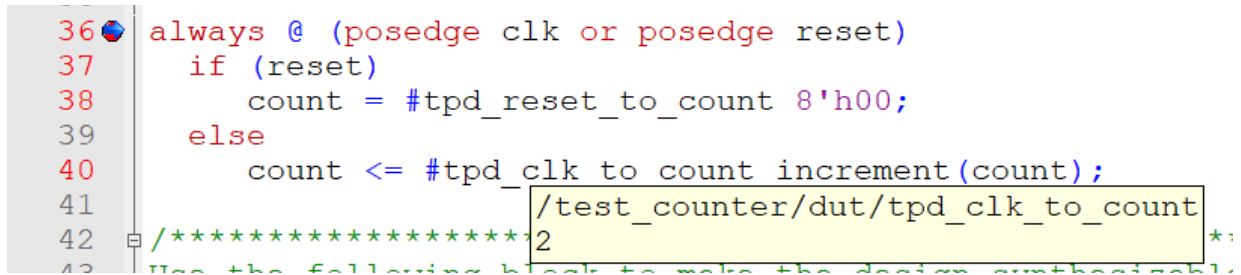

Figure 22
- Set your mouse pointer over a variable in the Source window and a yellow box will appear with the variable name and the value of that variable at the time of the selected cursor in the Wave window (Figure 22).